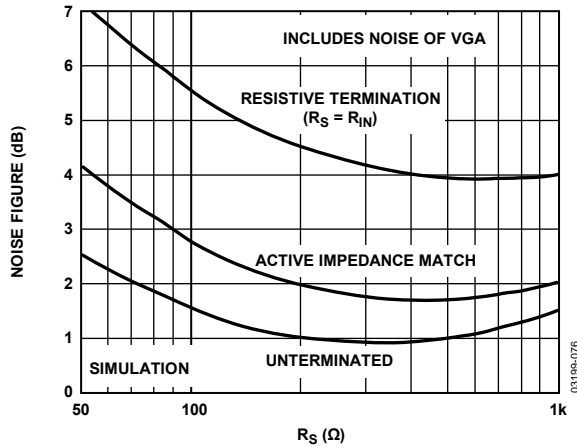

Figure 37. Noise Figure vs.  $R_S$  for Resistive, Active Matched and Unterminated Inputs, Gain = 1 V
The primary purpose of input impedance matching is to improve the system transient response. With resistive termination, the input noise increases due to the thermal noise of the matching resistor and the increased contribution of the LNA's input voltage noise generator. With active impedance matching, however, the contributions of both are smaller than they would be for resistive termination by a factor of  $1/(1 + LNA\ Gain)$ . Figure 37 shows the relative noise figure (NF) performance. In this graph, the input impedance was swept with  $R_S$  to preserve the match at each point. The noise figures for a source impedance of 50 Ω are 7.1 dB, 4.1 dB, and 2.5 dB for the resistive, active, and unterminated configurations, respectively. The noise figures for 200 Ω are 4.6 dB, 2.0 dB, and 1.0 dB, respectively.